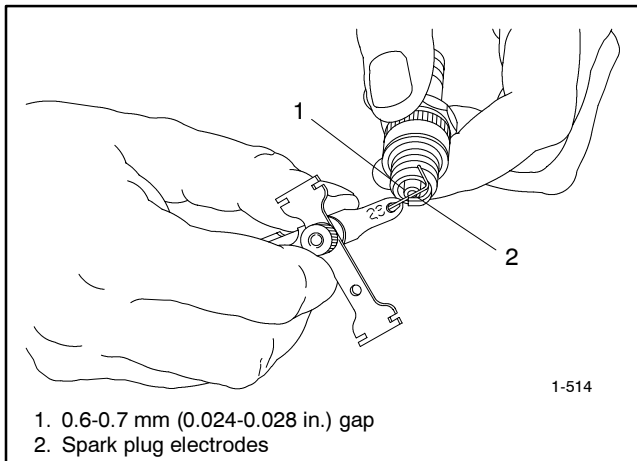

Figure 3-13 Spark Plug Gap Inspection
6. Check the spark plug gap before installing any spark plug. See Figure 3-13. Attain a correct gap when the feeler (or wire) passes between the spark plug electrode. It should pass easily but with some resistance or drag; otherwise adjust as necessary. The correct gap is 0.6-0.7 mm (0.024-0.028 in.).